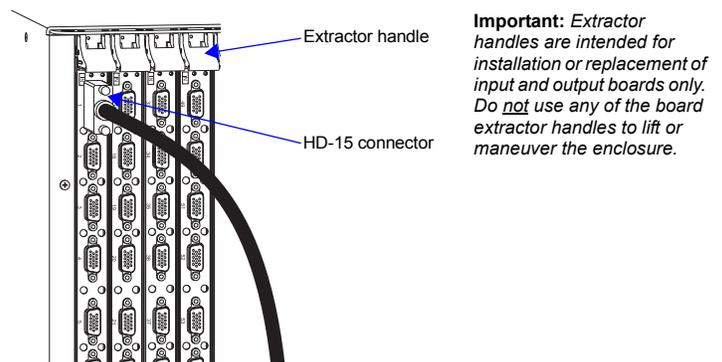

FIG. 3 Fasten HD-15 cables to input receptacles
**Important:** Do **not** use board extractor handles (FIG. 3) to lift or maneuver enclosure.
Each board has 16 HD-15 connectors (FIG. 3). EDID Programmer software is provided to assist with in-field re-programming. For information, see the *Instruction Manual*. Board configuration software, the “DG\_HD15 Wizard,” is also provided and can be used to adjust the source signal. For directions and tips, see the Wizard and its Help file.